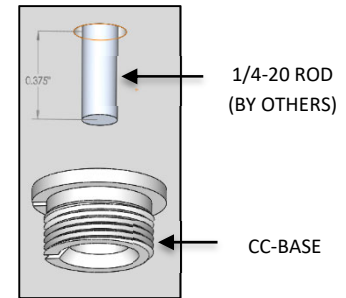

FIG. 14 – GRID CEILING
- Add a light thread locking compound to the 1/4-20 ROD (by others). Then thread CC-BASE to 1/4-20 ROD protruding through the ceiling material as shown in FIG. 14.